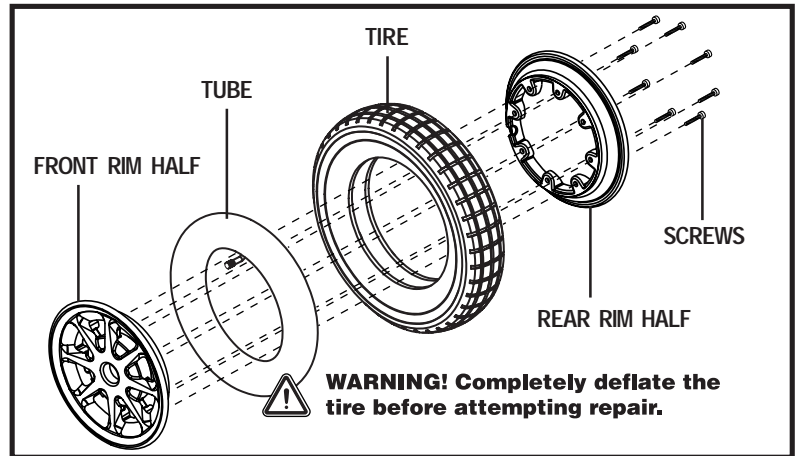

Figure 32. Drive Wheel Disassembly
6. Remove the screws that fasten the two rim halves together. See figure 32.